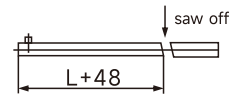

Figure 30
(2)As shown in Figure 30, after measuring the length of (L+48) mm at the rivet pin end of the extended shaft, the excess part will be sawn off.